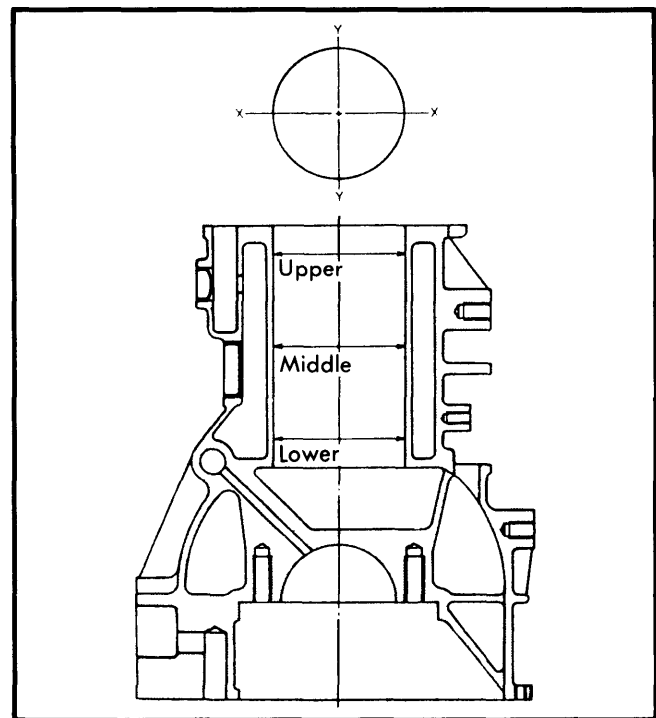

Fig. 9 Points for Measuring Cylinder Bore
1) Cylinder bore can be measured using a cylinder gauge. Measurement must be taken at 3 depths and 2 angles as shown in Fig. 9. Difference between minimum and maximum value is actual wear. If cylinder bore wear is .006" (.15 mm) or more, all cylinders must be rebored. If cylinder is honed or rebored, oversized pistons and rings are available in .010" (.25 mm), .020" (.50 mm), .030" (.75 mm) and .040" (1.00 mm) oversizes.